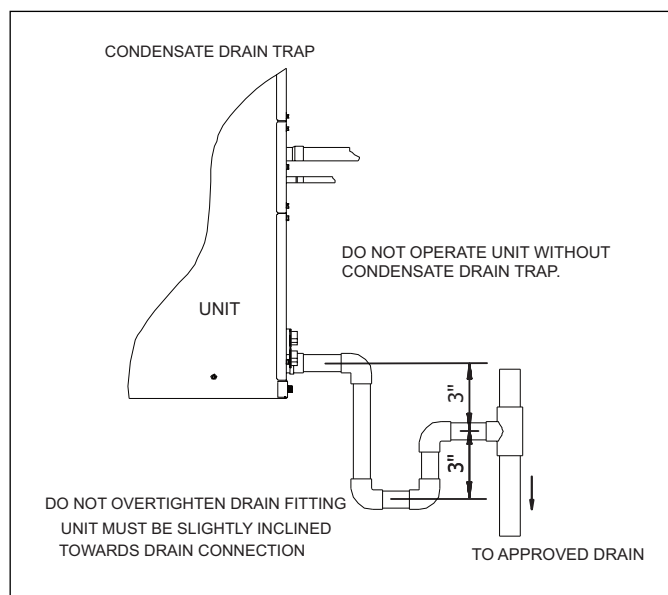

Figure 18
Refer to Figure 18 and the information below for required condensate drain trap installation.
- Make provisions for disconnecting and cleaning of the primary drain line should it become necessary. Install a 3 inch trap in the primary drain line as close to the unit as possible. Make sure that the top of the trap is below connection to the drain pan to allow complete drainage of pan (See Figure 18).